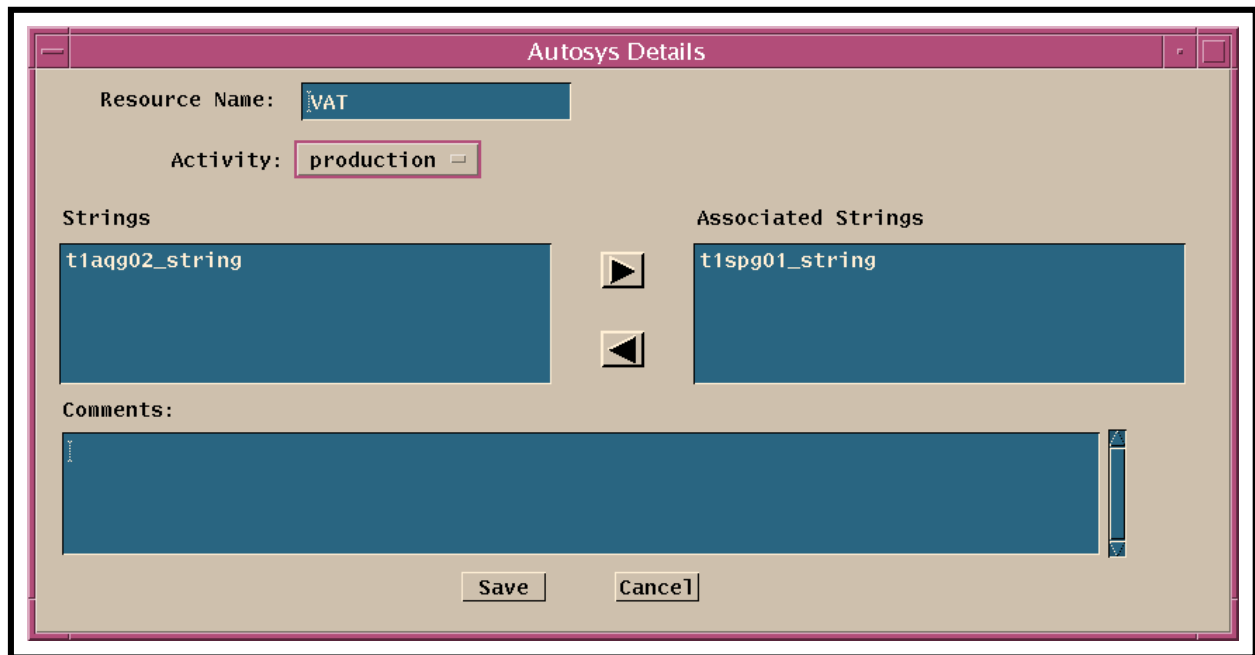

Figure 14. Autosys Details GUI
- The **Autosys Details** GUI displayed when the **New...** button on the **Resource Editor** GUI is clicked is similar to the **Autosys Details** GUI (Figure 14) that is displayed when the **Modify...** button on the **Resource Editor** GUI is clicked.